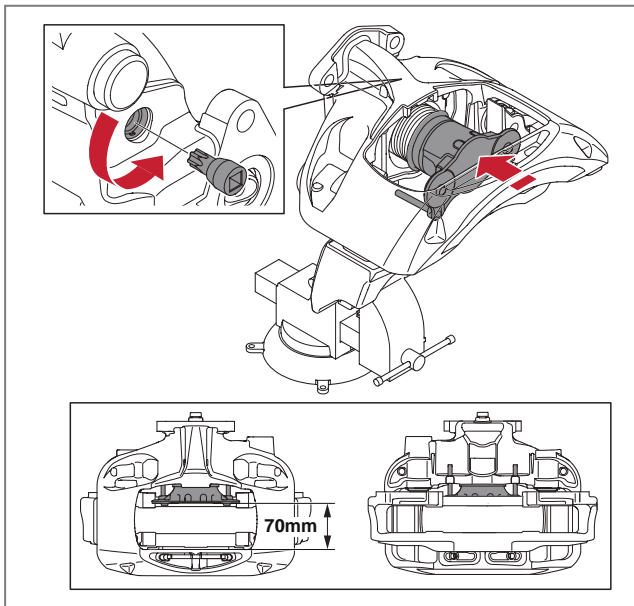

Fig. 52 - Inserting the thrust plate
8. Hold the thrust plate in position by hand against the adjustment screw. Insert the Torx 55 socket into the reset shaft and rotate carefully anti-clockwise. Carefully engage the thrust plate thread into the thread of the adjustment screw. Ensure that the thread does not become damaged when rotating. If the thread becomes tight or locks, rotate the reset shaft clockwise to release the thrust plate, then try again. A clicking sound will be heard and felt when rotating the reset shaft anti-clockwise, see ► Fig. 52.
10. Continue to retract the thrust plate until the distance between the thrust plate inner pad face and the brake calliper outer pad face is smaller than 70 mm, see ► Fig. 52.